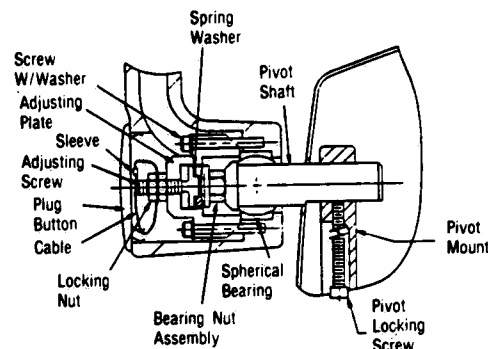

Figure 4-8. BRAKE SIDE PIVOT SHAFT ASSEMBLY.
5. On brake side, loosen both locknuts and brake adjustment screw. (See Figure 4-8)